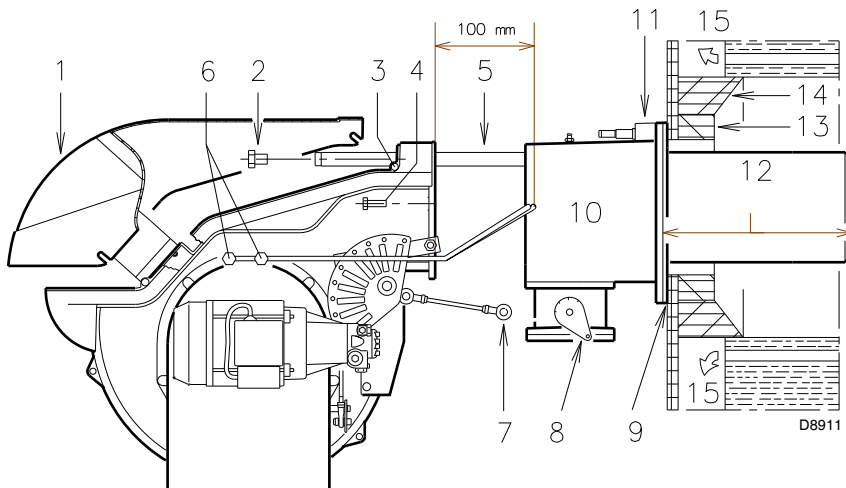
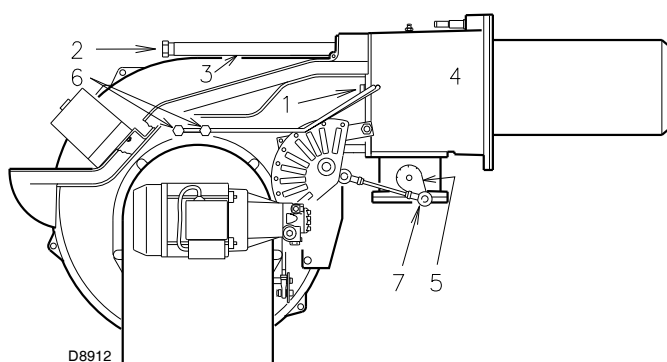

Fig. 10
Fig. 15
For boilers with front flue passes 15)(Fig. 10) or flame inversion chambers, protective fettling in refractory material 13) must be inserted between the boiler fettling 14) and the blast tube 12).
For boilers having a water-cooled front the refractory fettling 13)-14)(Fig. 10) is not required unless it is expressly requested by the boiler manufacturer.
- disconnect the hoses by unscrewing the two connectors 6)(Fig. 10).
- Refit the burner to the slide bars 3)(Fig. 15) at approximately 100 mm from the sleeve 4) - burner positioned as shown in Fig. 10 at page 16.
- Insert the ignition electrode cables and then slide the burner up to the sleeve so that it is positioned as shown in Fig. 15.
- Refit screws 2)(Fig. 15) on slide bars 3).